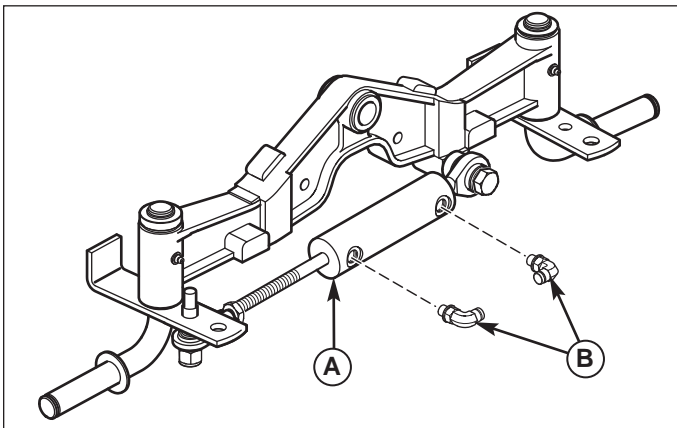

Figure 7 Hydraulic Fitting Installation
15. Install hydraulic perma-push fittings (B, Figure 7) to steering cylinder (A) as shown.